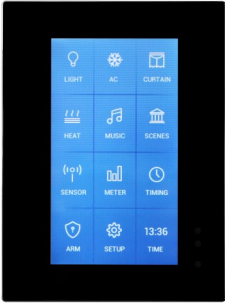

Figure 1. 4.3-Inch Enviro Touch Screen
4.3-Inch Enviro Touch Screen (See Figure 1) is a high-end and multi-function control panel for home automation. With real color LCD screen, touch control, it is convenient for the users to control lighting, scene, curtain, music, air conditioning, floor heating and others in an intuitive way.